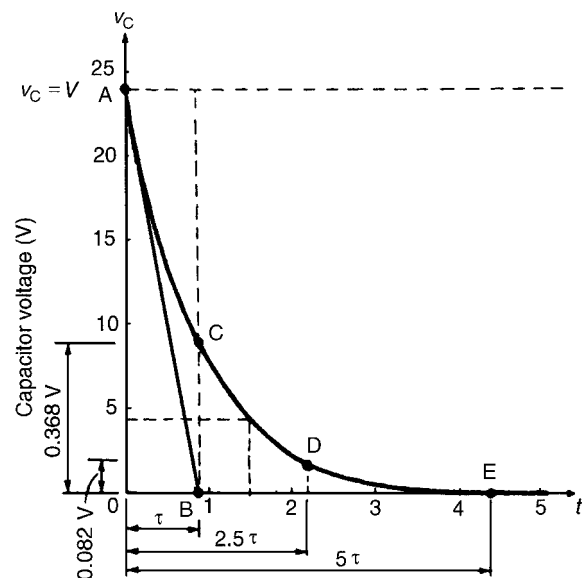

Figure 18.5
- The exponential decay of capacitor voltage is from 24 V to 0 V in a time equal to five time constants, i.e. $5 \times 0.88 = 4.4$ s. With reference to Fig. 18.5, to construct the decay curve:
- (vi) the value of the transient after a time equal to two and a half time constants is 0.082 of the initial value, i.e. $0.082 \times 24 = 1.97 \text{ V}$, shown as point D in Fig. 18.5,
- (b) The voltage drop across the resistor is equal to the capacitor voltage when a capacitor is discharging through a resistor, thus the resistor voltage/time characteristic is identical to that shown in Fig. 18.5 Since $v_R = v_C$, then at 1.5 s after decay has started, $v_R \approx 4.4 \text{ V}$ (see (vii) above).